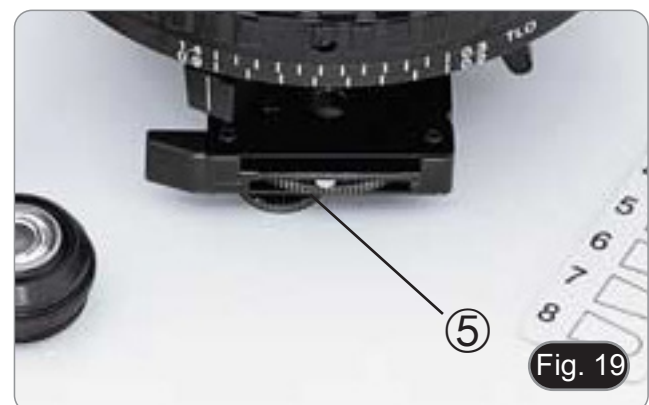

Fig. 19
6. Turn the polarizer wheel ⑤ under the condenser (Fig. 19) to achieve maximum darkening of the eyepieces, and then tighten the polarizer rotation locking screw ④.